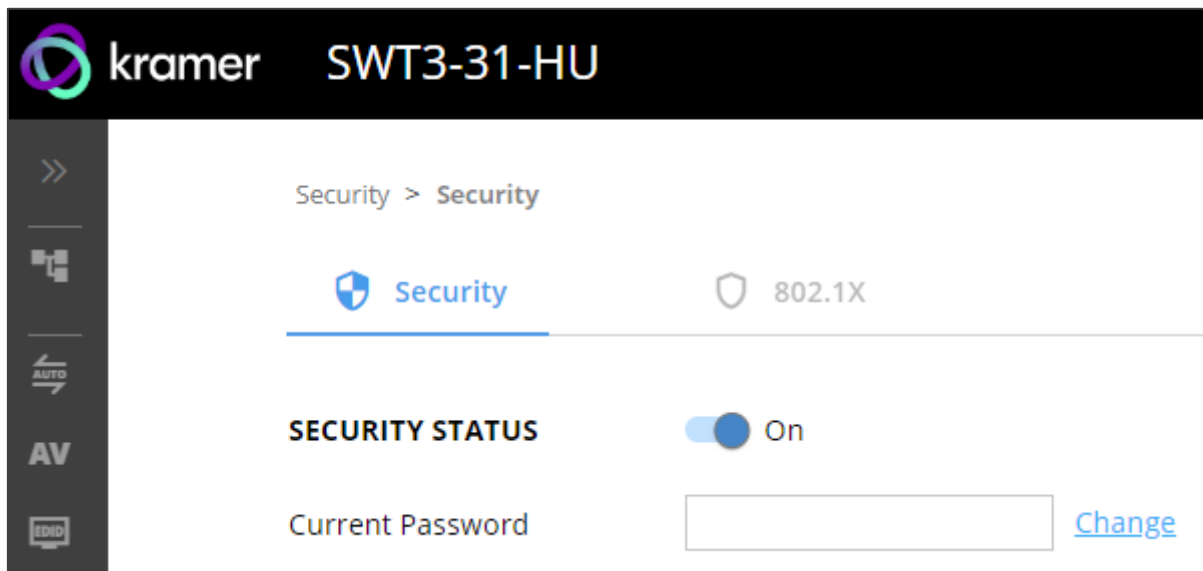

Figure 39: Security – Security Tab
1. Go to the Security page (Figure 39).
1. Go to the Security > Security (Figure 39).